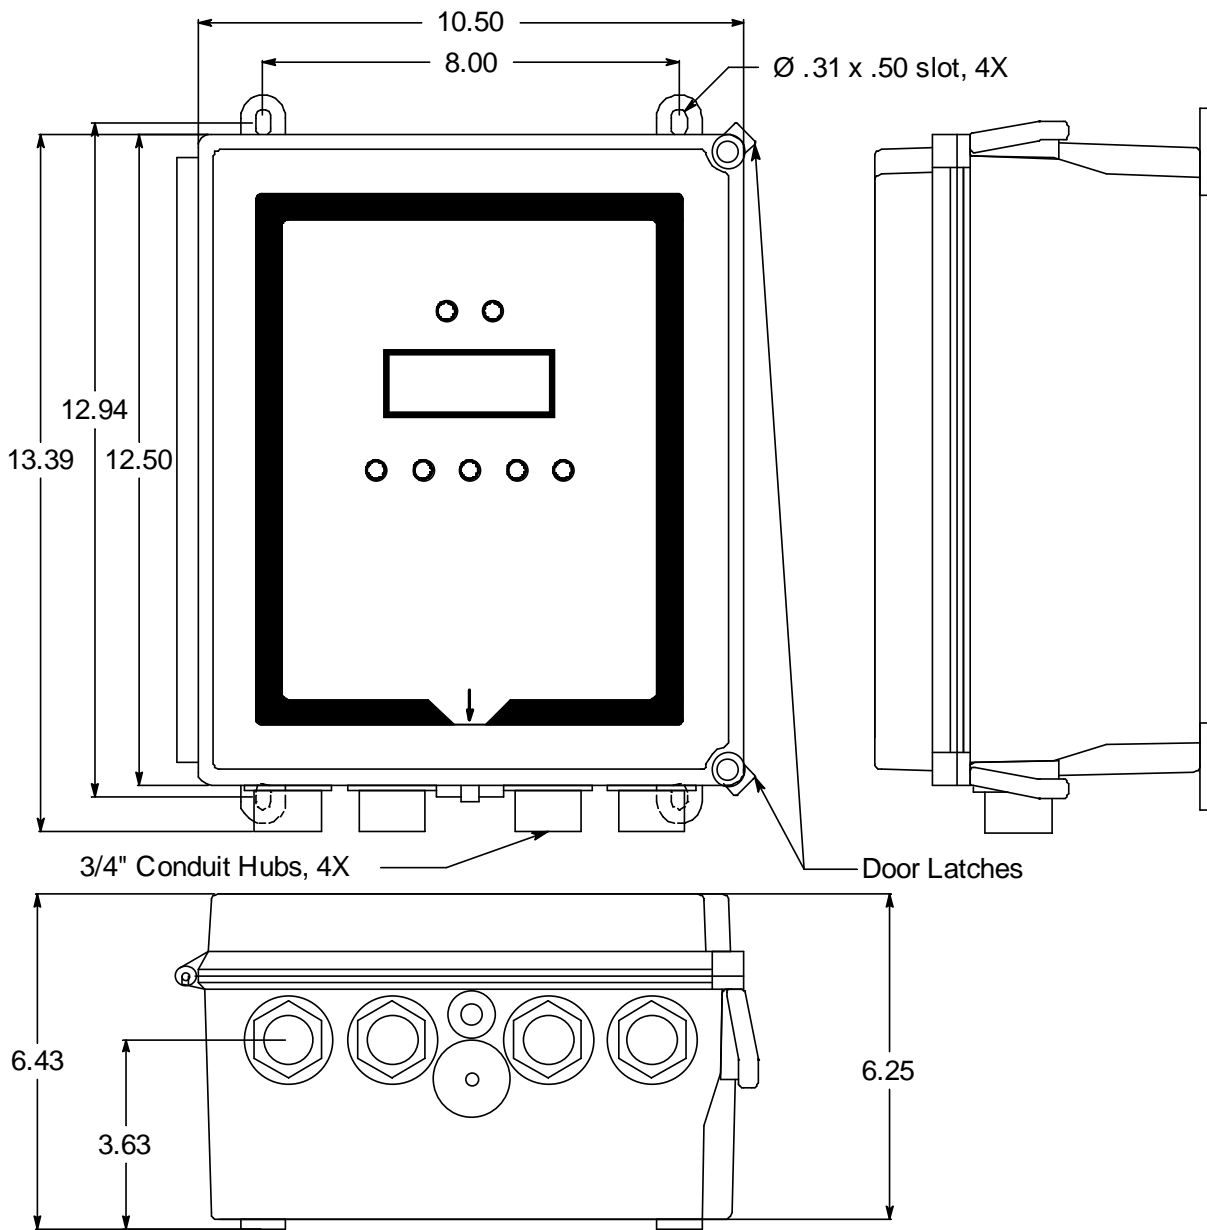

Figure 7: Beacon 410 Gas Monitor Outline and Mounting Dimensions
The Beacon 410 can be ordered with a red alarm strobe light installed on the top of the housing. The Beacon 410 retains its NEMA 4X rating with the strobe installed. Strobe operation can be programmed in Configuration Mode (see “Chapter 6: Configuration Menu” on page 35). The outline and mounting dimensions with the alarm strobe are the same as the standard Beacon 410 with the exception of the height. The difference is shown below. See Figure 7 for all outline and mounting dimensions.
3. The Beacon 410 is shipped with the mounting feet positioned under the housing. Loosen the screws that secure the feet to the housing, rotate the feet to their mounting position as shown in Figure 7, then tighten the screws.
4. Prepare the selected mounting site as required to mount the Beacon 410. It should be mounted at eye level (4 1/2 to 5 feet from the floor). Refer to Figure 7 for the outline and mounting dimensions.